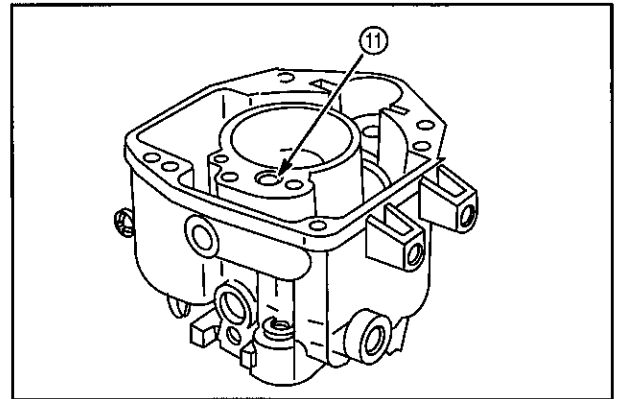

Fig. 88
10. Install pilot jet (11) using Screwdriver #19061, **Fig. 88**.